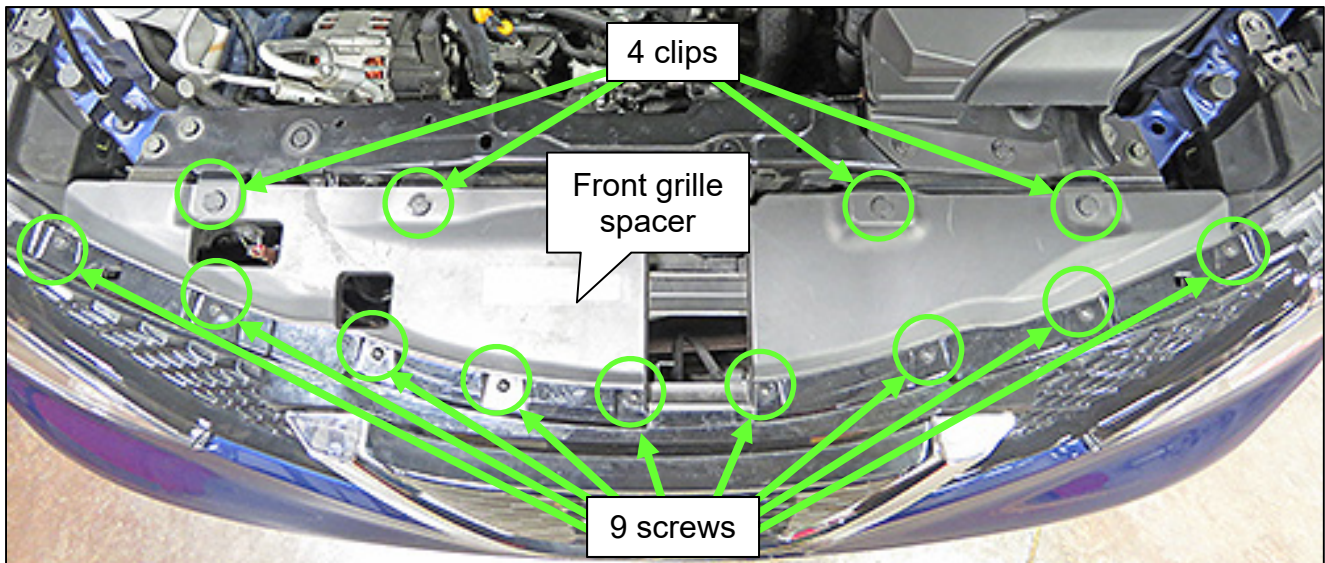

Figure 1
5. Remove the front grille spacer from the vehicle (see Figure 1).